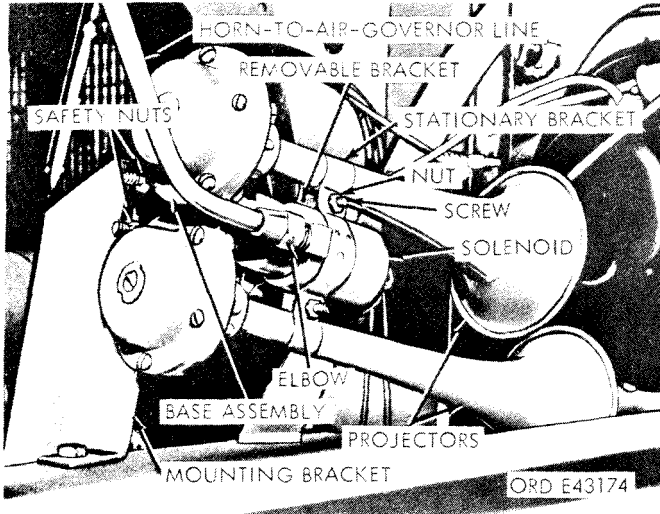

Figure 2-162. Horn installed on vehicle (solenoid with mounting brackets).
d. *Horn.* The waterproof horn assembly (fig. 2-162) is an electrically controlled air-operated unit. Depressing the horn button (21, fig. 2-161) completes the circuit to the horn solenoid.